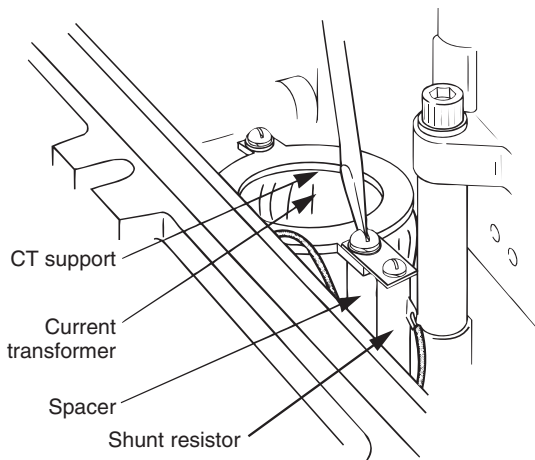

Figure 3. CT removal
8. Remove screws and hardware that secure CT supports; note the routing of the CT leads as the transformers are being removed. Discard original current transformers, and spacers. Save shunt resistor and mounting screw for reuse. See Figure 3.
11. Install the new spacers and CT support. Secure with new 1/4-20 x 2" machine screws and the previously removed washers. Re-attach the shunt resistor assembly. See Figure 3.